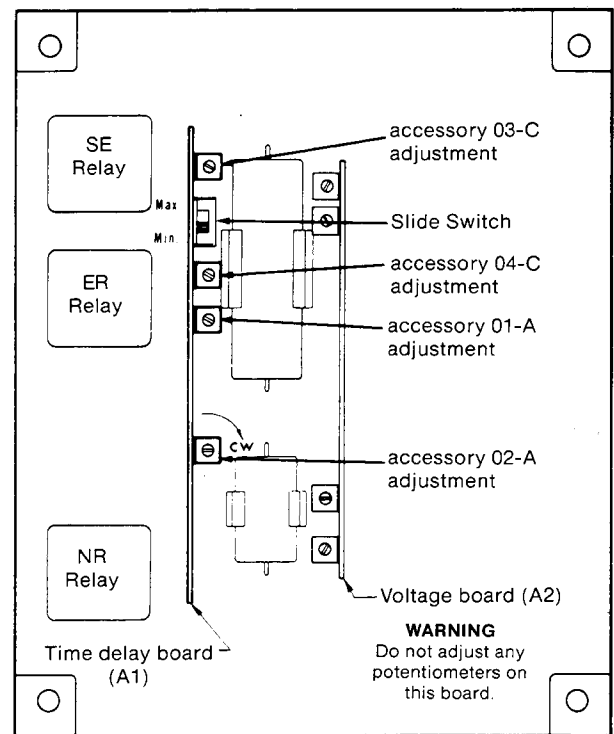

Figure 14. Adjustments
6. Each time delay is adjusted by turning a potentiometer; clockwise to increase, counterclockwise to decrease. See Figure 14. Use the table below as a guide to approximate time delays and their corresponding pot. settings. The pots are shown with A1 board vertical.